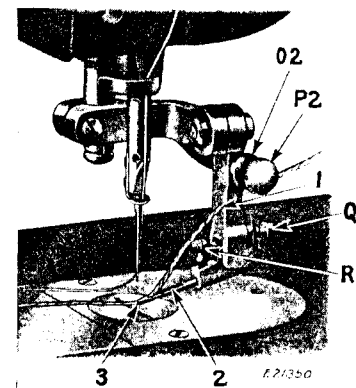

Fig. 26. Cord Guide Tube Threaded
Fasten the cord guide bracket to the presser bar of the machine so that the cord guide tube (3, Fig. 26) points directly to the left and rests on the needle plate.
Loosen the knurled thumb nut (O2, Fig. 26) and turn the adjusting screw (P2, Fig. 26) to the right or left to bring the cord guide tube (3) in the correct relative position with the needle, after which securely tighten the thumb nut (O2).
Loosen the screw (R2, Fig. 26) and set the end of the cord guide tube (3) flush with the right hand side of the needle slot in the needle plate, then securely tighten the set screw (R2).
To raise or lower the cord guide tube (3), turn the thumb screw (Q2, Fig. 26) until the cord guide tube is set at the required height.
Pass the cord from the thread unwinder or other spool holder, through the hole (1, Fig. 26) in the cord tube holder, through the opening (2, Fig. 26) in the cord guide tube and through the hole in the end of the tube. Draw enough cord through the tube to leave an end sufficiently long under the needle with which to commence sewing.